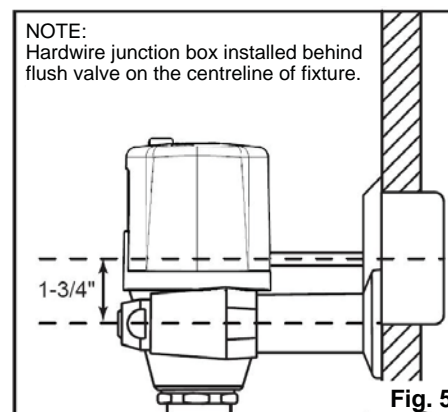

Fig. 5
- Before installing the flush valve body. Install 2" x 4" electrical box into wall with centre of box in line with the cut-out in the back of the metal flush valve cover. See Figure 5.